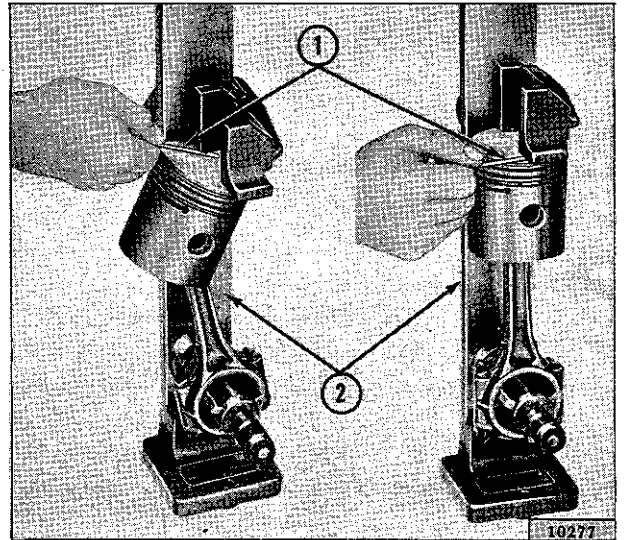

FIG. 103—CHECKING PISTON AND CONNECTING ROD ALIGNMENT
d. Place piston and rod assembly in a connecting rod aligning fixture and check alignment of the assembly as shown in Fig. 103. Follow instructions furnished with the fixture.